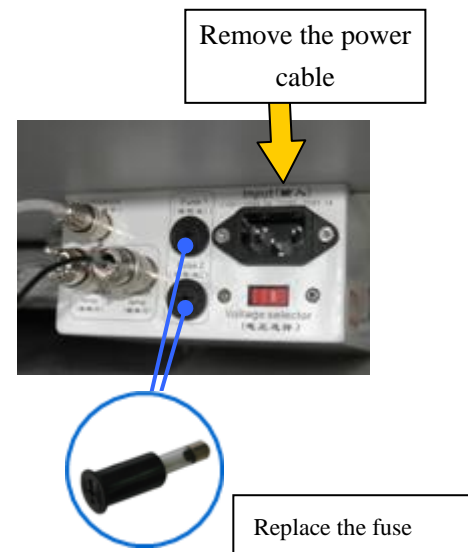

Fig.4.6.1
1) Switch off the main power and remove the power cable from socket. (Fig.4.6.1).
2) The fuse is inserted in the fuse box which has fuse mark. Please rotate the fuse part out (Fig.4.6.1) by pressing the fuse box with a screw or a coin. One fuse is in use, the other is in spare. Please check them, if the one in use is burnt, please replace it with the spare one and then place both the two fuse parts into original place.